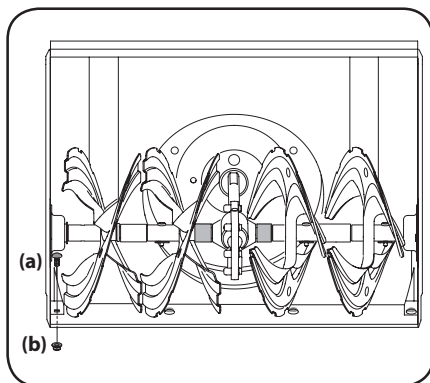

Figure 4-2
3. Remove carriage bolts (a) and hex nuts (b) which attach it to auger housing. See Figure 4-2.
4. Reassemble new shave plate, making sure heads of carriage bolts are to the inside of housing. Tighten securely. See Figure 4-2.